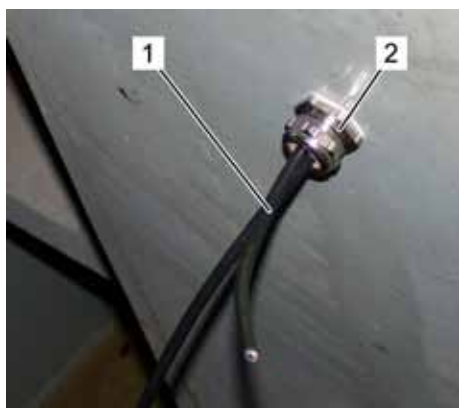

Fig.61: Cable gland outside the engine
4. Lead cables (Fig. 60/2) through cable glands (Fig. 60/1) from the inside (Fig. 60) to the outside (Fig.61) of the engine.